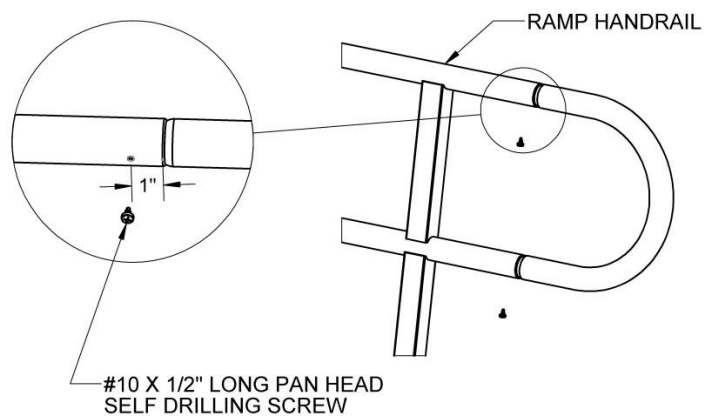

FIG. 4.9
- 4.4.6. Install one #10 x 1/2" pan head Phillips self-drilling screw into each handrail (FIG. 4.9).